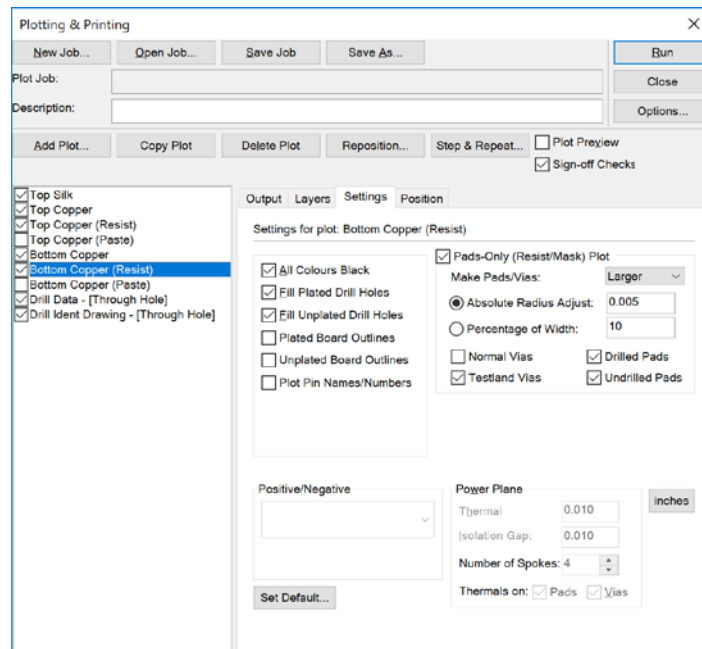

Figure 3 Settings Tab
4. Select the "Settings" tab. This tab has various options, as can be seen in Figure 3, depending upon what kind of output layer you have selected. You must ensure that the check boxes marked "All Colours Black", "Fill Plated Drill Holes" and "Fill Un-plated Drill Holes" are both checked for all layers, and for the two resist layers, the "Pads-Only (Resist/Mask) Plot" check box should also be checked.